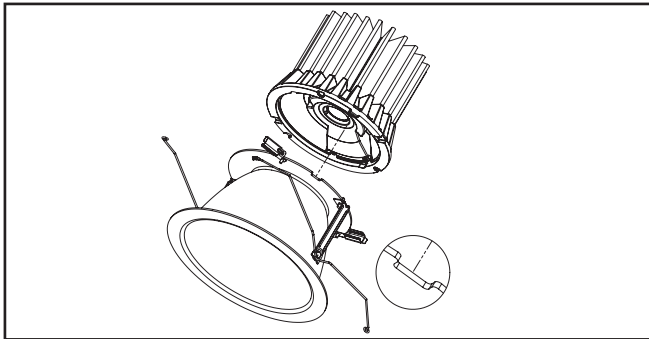

Figure 33
5. Insert LED engine on to trim assembly. Align post on LED engine with slot on trim assembly (Figure 33).